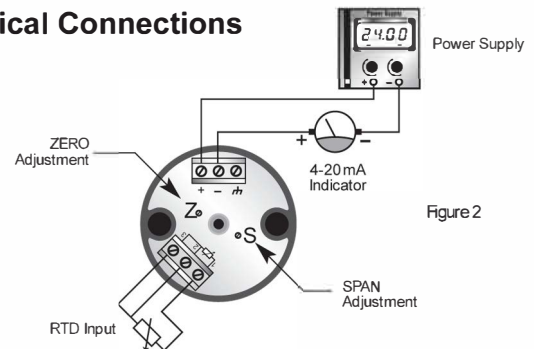

Figure 2
1. Connect a DC power supply in series with 4-20 mA indicator to the (+) and (-) power terminals as shown (Fig. 2)
2. Connect the RTD simulator to the input terminals as shown (Fig. 2).